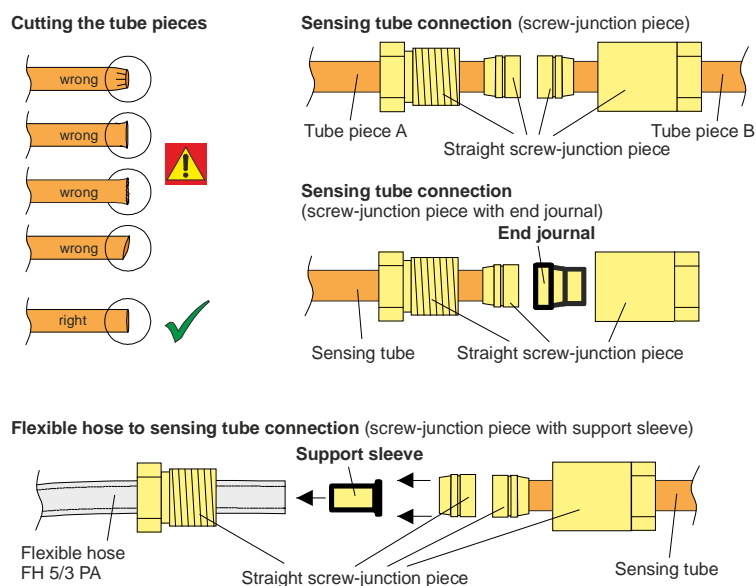

Fig. 19 Sensing tube connections
- The tube pieces are connected to each other with screw-junction pieces. Make sure that the tube ends are cut at a right-angle and do not have protruding metal splinters (burrs) (**Fig. 19**).
- Use a screw-junction piece with end journals at the end of the sensing tube (**Fig. 19**). Mount these only after blowing out the sensing tube.
- A support sleeve must always be used for the screw-junction pieces connecting the sensing tube to the flexible hose (**Fig. 19**).